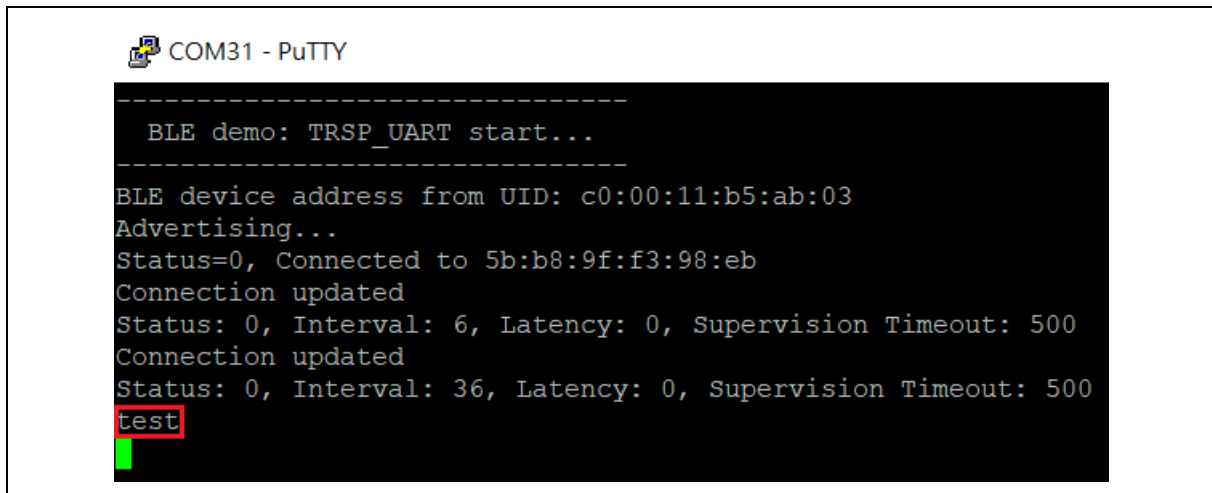

Figure 4-4 TRSP\_UART App to PC Screen
4. For sending data from mobile App to PC, you can try to send string “test” in App. Then you will see the string in debug console, as shown in Figure 4-4.